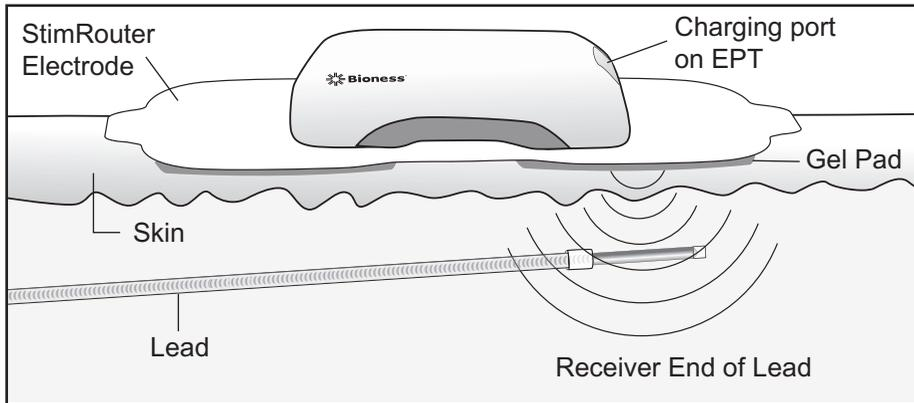

Figure 7-5: Correct stimulation position. (Illustration not to scale.)
4. Align the end of the StimRouter Electrode with the EPT charging port directly over the receiver end of the lead. The center of the gel pad should be above the receiver end of the lead. See Figure 7-5. If the StimRouter Electrode is not directly over the receiver end of the lead, then stimulation may be uncomfortable or ineffective.